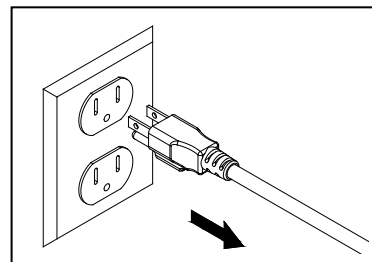

Fig. 7
- Unplug pump, remove from pond. Fig. 7